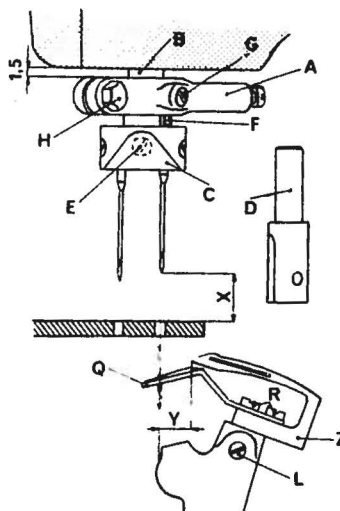
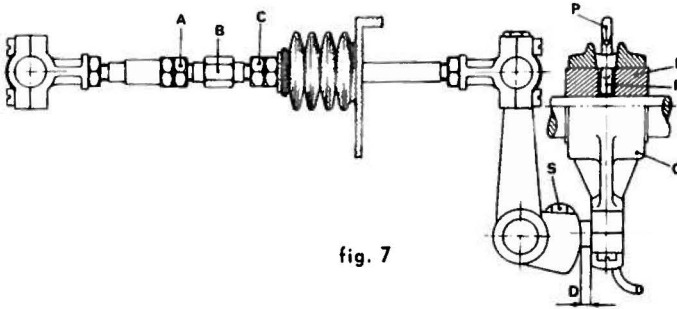

fig. 3
fig. 7
- S 1651.00 for operations as in fig. 3
- S 1652.00 for operations as in fig. 7
##### 3. Setting the needle (fig. 3):
- Insert looper Z in its holder so that it goes all the way in and then tighten screw L against the flat surface of the looper (fig. 3).
- Obtain measurement D using gauge S. 01652.00 for the lower looper movement connecting rod (fig. 7) applying same on nut S.
- Also obtain from the setting table measurement Y for the distance between the point of the looper and the side of the righthand needle (fig. 3).
- Loosen counternuts A and C (fig. 7) and rotate pin B in one or other direction until measurement Y (fig. 3) is obtained (gauge S. 1651.00).
- Slightly tighten both counternuts A and C (fig. 7).
- If the stroke of the looper is retarded or advanced, both inner setting screws M of eccentric N of connecting rod O (fig. 7) must be loosened and, holding the eccentric N in place, rotate the pulley of the machine till the proper position is obtained.
**Note** If this is not the case, the looper stroke must be lengthened or shortened by adjusting screw S (fig. 7) thus varying measurement D. If this is done all the settings described above must be modified except those given in the first paragraph.
- Lock countenuts A and C (fig. 7).
**Note:** When the connecting rod is moved in order to obtain distance D (fig. 7) care must be taken that eccentric N is centered in relation to the connecting rod head O. Should an excessive change in distance D be necessary, bend lubrication tube P so that it is in the centre of lubrication hole O of the connecting rod.
#### 5. Setting of front needle guard on looper (fig. 3)